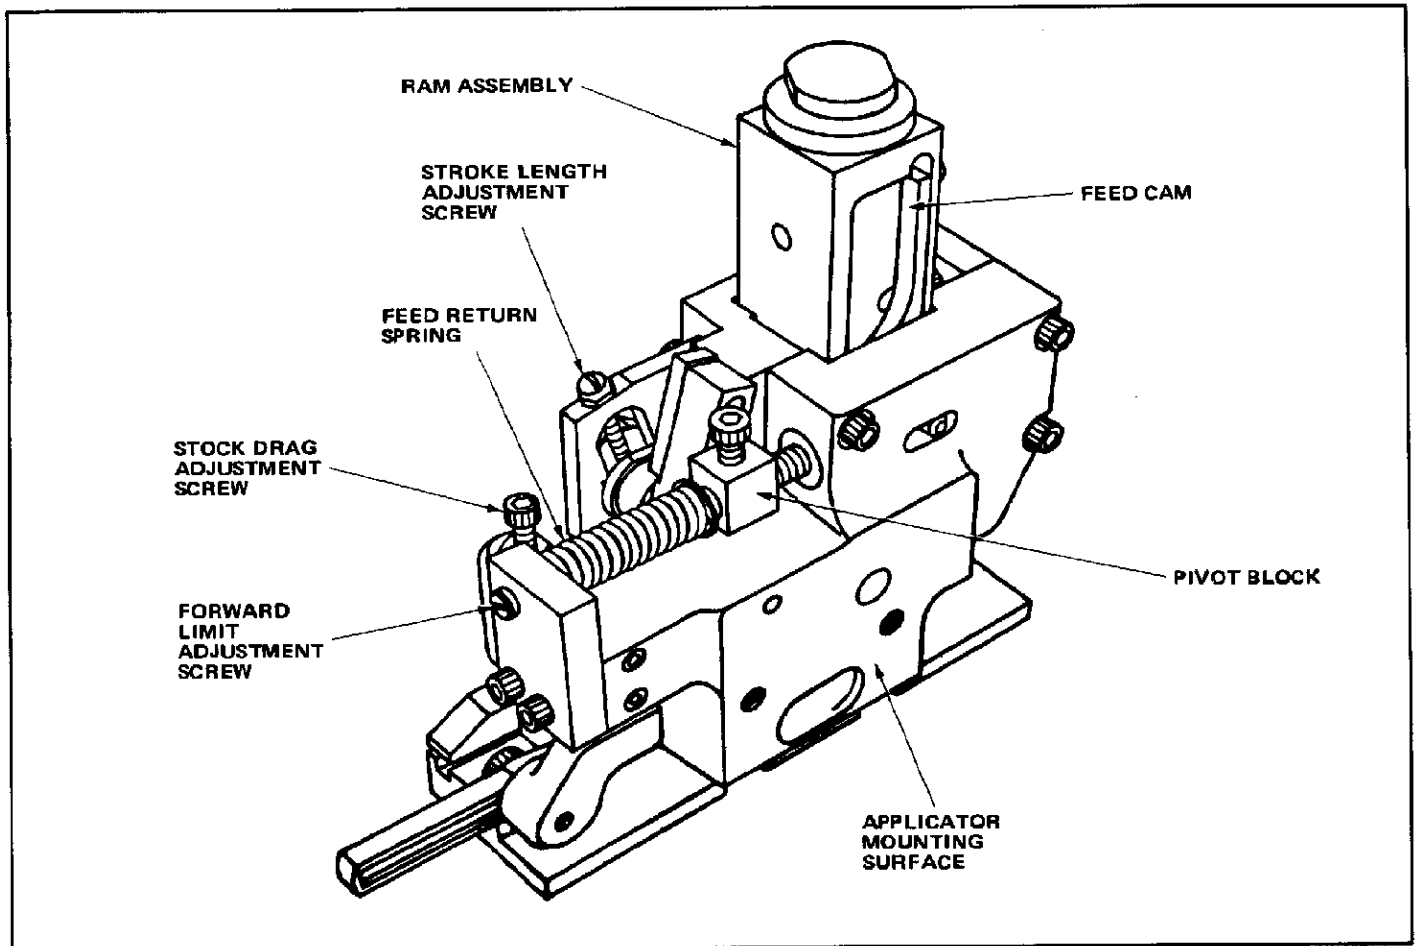

FIGURE 3
4.1. Feed Finger Forward Limit Adjustment (See Figure 3)
4.2. Feed Finger Stroke Length Adjustment (See Figure 3)
4.5. Stock Drag Adjustment (See Figure 3)
3. Apply a drop of oil to forward limit adjustment screw, and to feed rod into which it is turned (see Figure 3).